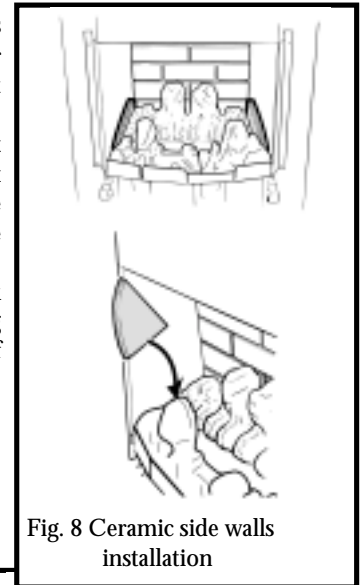

Fig. 8 Ceramic side walls installation
4. The ceramic side walls are marked at the rear bottom corners "L" (Left side) & "R" (Right side). Place the side walls against the sides of the fire box and in the recesses at the sides of the base coals. The markings "L" & "R" should be at the back bottom corners and facing to the centre of the back of the firebox (See figure 8).